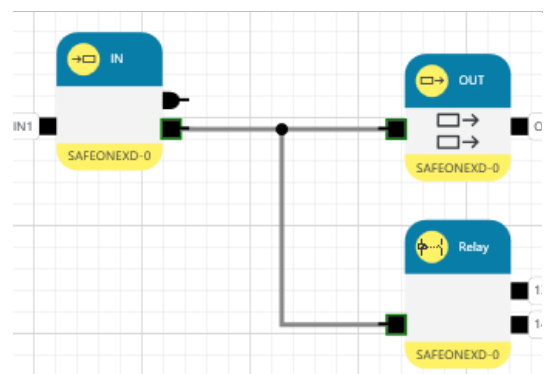

Fig. 6-6
- ▶ Click on the line and drag the cursor to the input pin you want (Fig. 6-6).